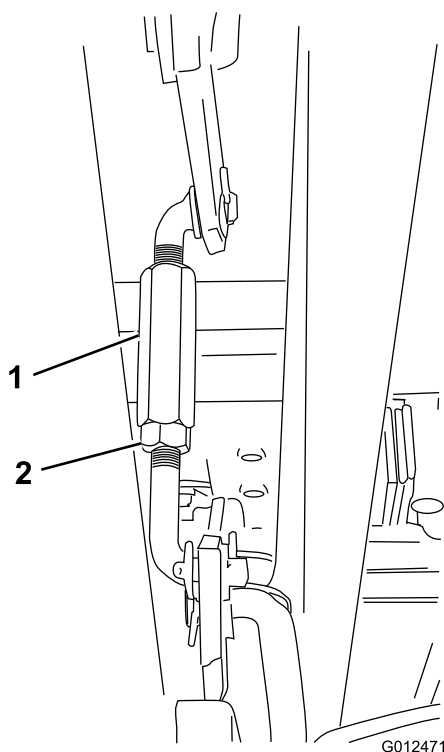

Figure 49
8. Loosen the jam nut on at the end of the turnbuckle (on the right side of the machine; refer to Figure 49), and adjust the turnbuckle until the distance between